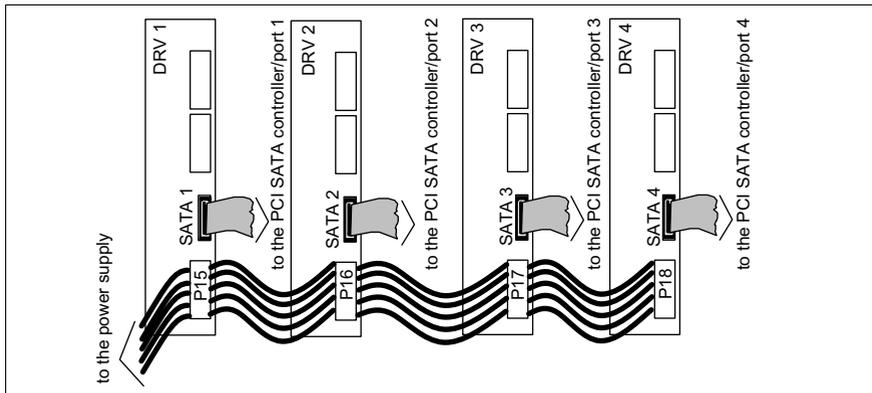

Figure 19: Four SATA drives: connectors
- i** If more than two SATA hard disk drives are installed an additional PCI SATA controller is necessary. The four SATA hard disk drives will be connected to the SATA interfaces (Port 1 - Port 4) of the controller (see figure 19 on page 37).
- ▶ Connect the two SATA cables T26139-Y3928-V101 (delivered with the controller) to the SATA interface of the SATA drives (see also figure 19).